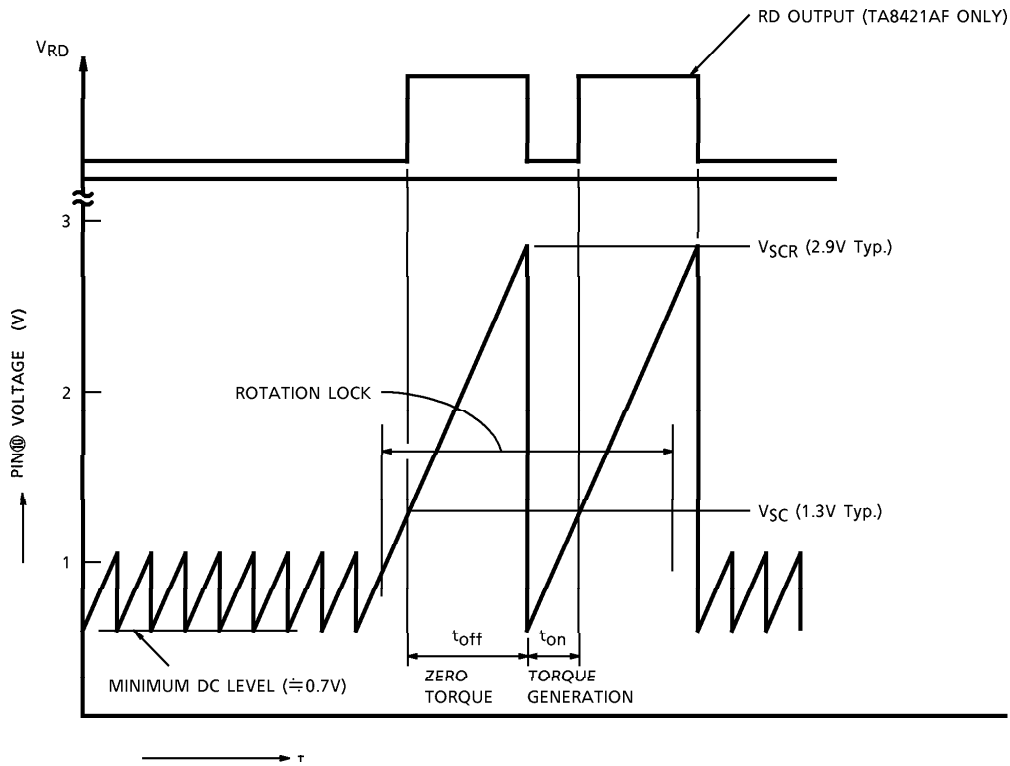

Fig.1 Automatic Self Rotation Recovery Circuit Operation
Fig.1 shows pin⑩ voltage and the operation of this functions are as follows.
RD output becomes low (Actually VSAT(RD) level of 0.3V Typ.) when the Motor in rotation state and generates toff pulse when the rotation is locked (Refer to Fig.1).